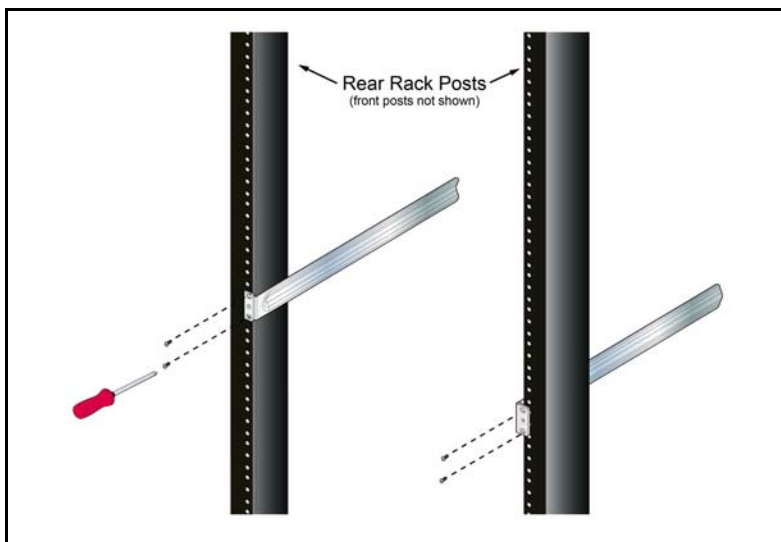

**Figure 11: Maximum Bracket-Rail Span**
The rails attach to the rear rack posts to support the switch. Before attaching the rails to the rack posts, verify that, when the switch is mounted, the distance between the bracket flanges and rail flanges does not exceed 30 inches, as shown in Figure 11.
**Step 4** Verify the distance between the mounting bracket flanges and rail flanges does not exceed 30 inches. See Figure 11.